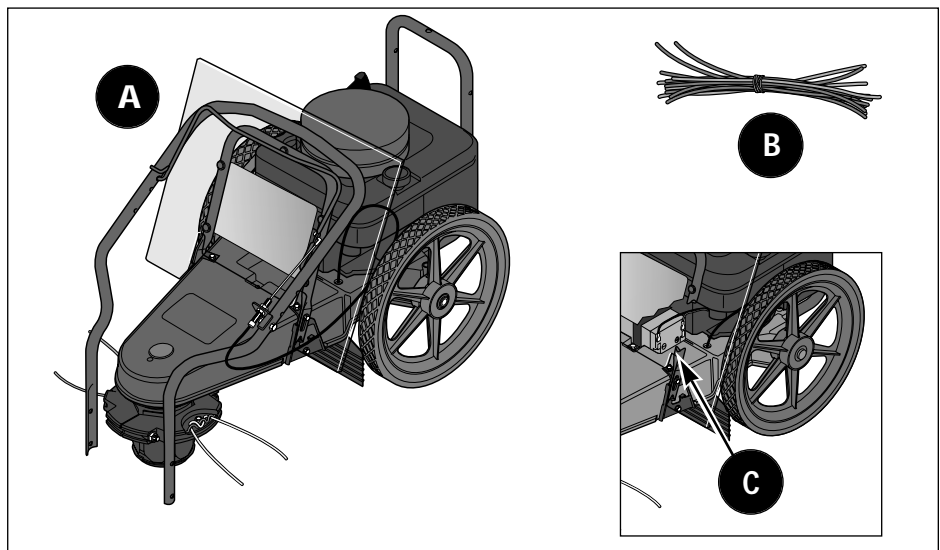

Figure 2-1: Unit as shipped (recoil start model shown). Battery for electric start model is shown in inset.
- Trimmer/Mower Assembly (A, Figure 2-1)
- Extra Trimmer Line (B, Figure 2-1): six pieces of heavy-duty gauge .130" dia. line and six pieces of extra-heavy-duty gauge .155" dia. line.
- (3) Plastic cable ties
- (1) Battery (installed on unit – see C, Figure 2-1)
- (2) Ignition Keys and (1) Battery Recharger (in separate electric start package)